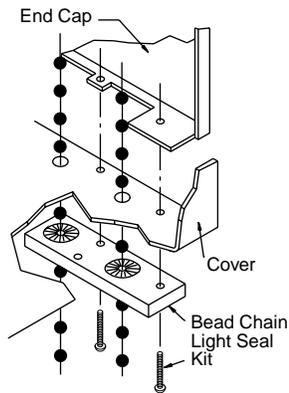

Figure 1
- ① Open cartons lengthwise. Remove all pieces from carton.
- ② If bead clutch operated, remove the bead chain light seal from bottom of end cap on operator end. Save the seal and screws (see Fig. 1).